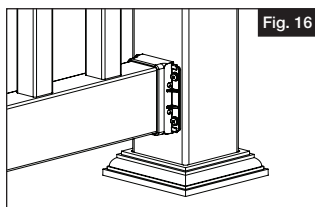

Fig. 16
- Install the #10 x 1  $\frac{1}{4}$ " square drive screws (Fig 16).